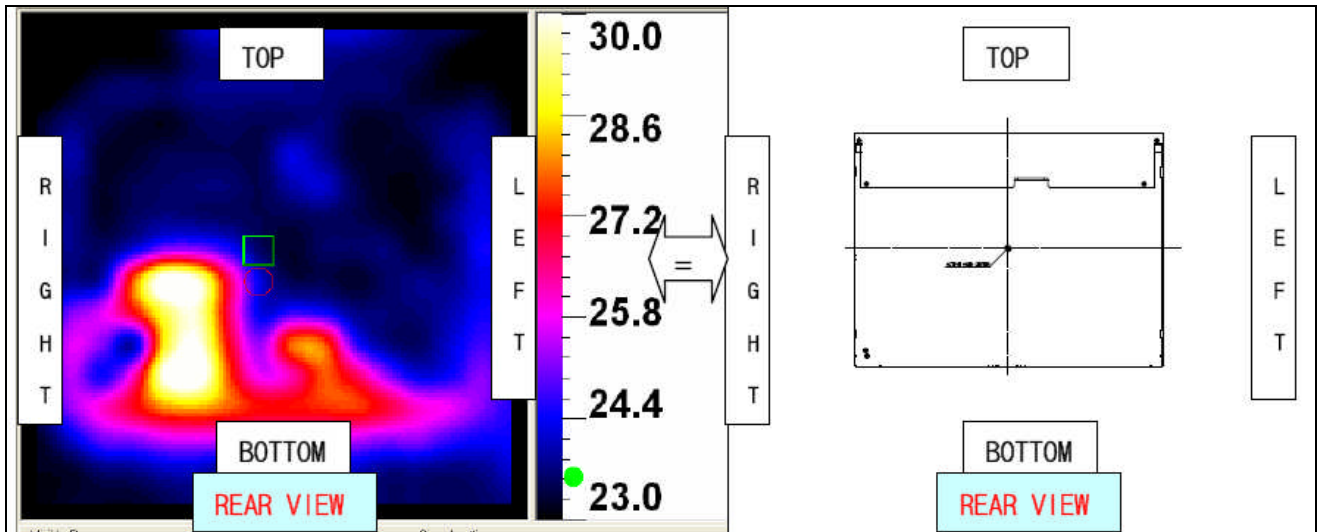

Figure 1. Thermal Map Showing the Heat Imaging of the LVM121XSB-411-L01 (REAR VIEW)
- (1) The spike noise causes the mis-operation of circuits. It should be lower than following voltage : $V = \pm 200\text{mV}$ (Over and under shoot voltage).
- (2) Response time depends on the temperature. (In lower temperature, it becomes longer.)
- (3) Be careful for condensation at sudden temperature change. Condensation makes damage to polarizer or electrical contacted parts. And after fading condensation, smear or spot will occur.
- (4) When fixed patterns are displayed for a long time, remnant image is likely to occur.
- (5) A module has high frequency circuit. It might be necessary to shield the electromagnetic noise in your integrating system.
- (6) The thermal map showing the heat imaging of the module (LVM121XSB-411-L01) is shown in figure 1. Please reference the thermal map for optimum thermal design to maximize the MTBF of LED life.